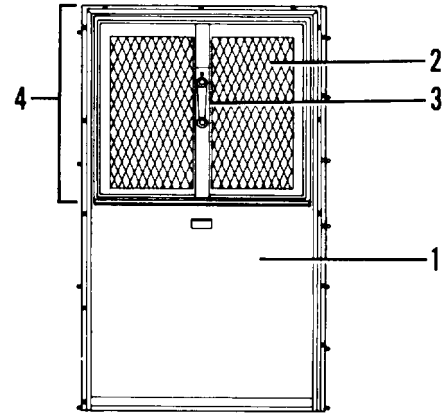

Figure 2-15. Retractable window
- . Three retractable windows (right side) (figure 2-15)
- b. Blackout covers (1, figure 2-15) that slide up inside of the semitrailer.
- c. Brush guards (2).
- d. A lever (3) is used to open and close retractable window sash (4).